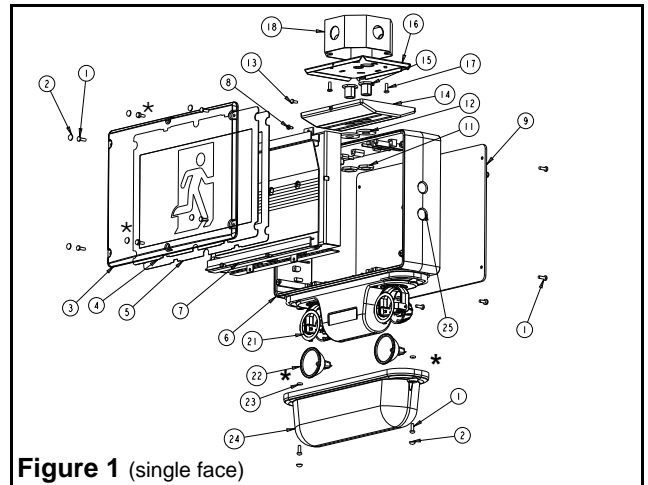

Figure 1 (single face)
- e. Make sure the securement screw is accessible (see figures.1 & 2 part # 13). Use existing screws in junction box to secure canopy backplate to the junction box.
- h. Determine which holes in the exit frame will be used for mounting (see figures 1,2 & 4). Support frame by two blocks of wood, maximum one inch apart. Strike knockouts with a hammer and screwdriver. Clear holes of burrs to allow proper assembly of nipple/wire assembly. Note: end mount installation is weatherproof but not certified Nema 4X (see figure 4).